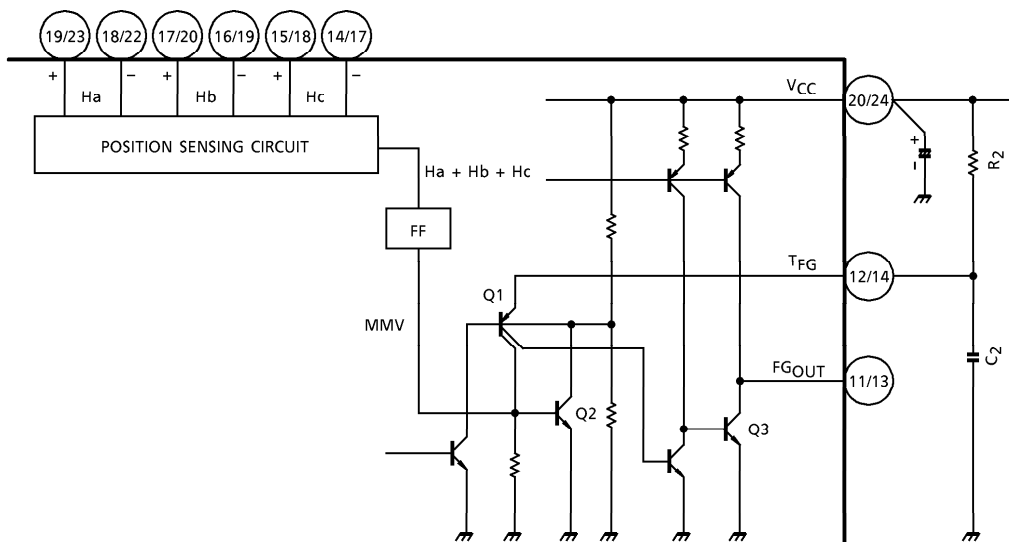

Fig.1
(1) Operation of FG output (pin ① / ⑬) and  $T_{FG}$  (pin ⑫ / ⑭)
In Fig.1, Q1 and Q2 are the monostable multi-vibrator to which gate (Q2 base) the signal from each position sensing input of Ha, Hb and Hc is input after ORed and shaped in waveform by FF. The pulse width of MMV made by Q1 and Q2 is determined by  $R_2$  and  $C_2$  to be connected to  $T_{FG}$  (pin ⑫ / ⑭), and the square wave having the pulse width to be determined by  $C_2$  and  $R_2$  is output. Of course, this frequency is proportional to the rotation signal and this frequency is six times the frequency of each position sensing. (6 per 1 electrical rotation)